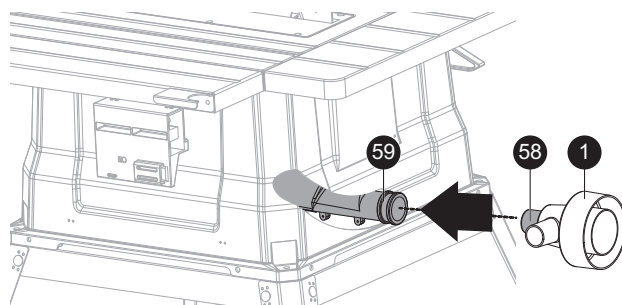

Fig. 9a
- > Attach the hole A [58] of dust extraction adapter [1] to the dust extraction port [59] on the rear of the table saw as shown in the Fig. 9a.